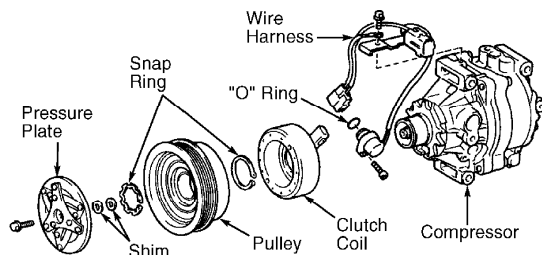

Fig. 1: Exploded View Of Compressor (Matsushita Scroll)
2) Remove shim(s) from shaft. Remove snap ring and, using a plastic hammer, tap pulley off. Remove screw for clutch coil lead. Remove snap ring and clutch coil. See Fig. 1.